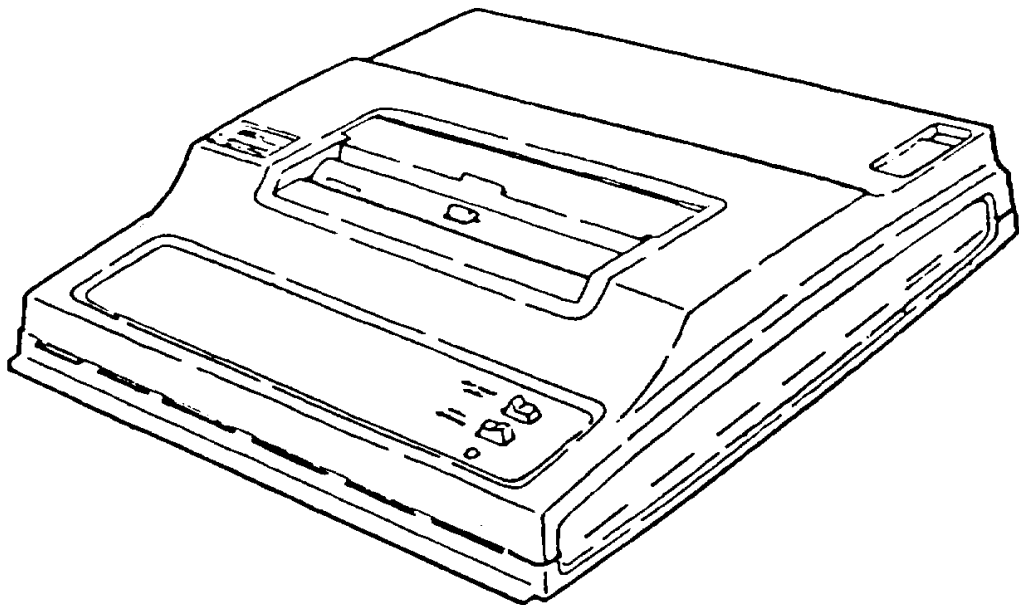

Figure 1-6. Printer
g. Printer. The printer (fig. 1-6) records student progress in a permanent form when activated from the control console. Chapter 2 contains printer operating instructions.